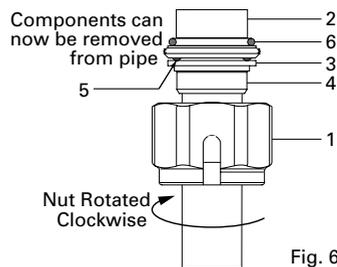

Fig. 6
Slide the adaptor (2), collar (3) and the 'O' rings (5&6) upwards by hand or gently using pliers if needed, see Fig. 6.